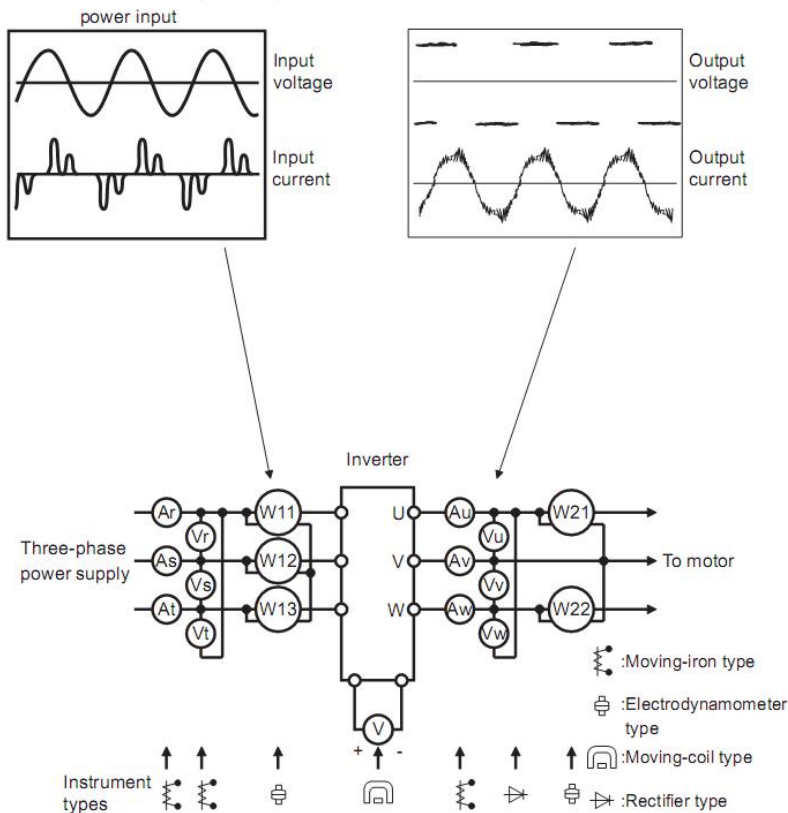

Fig 3-5 Toggle Switch J7
1. There is a toggle switch J7 near to control terminals. Please refer to Fig 3-5.